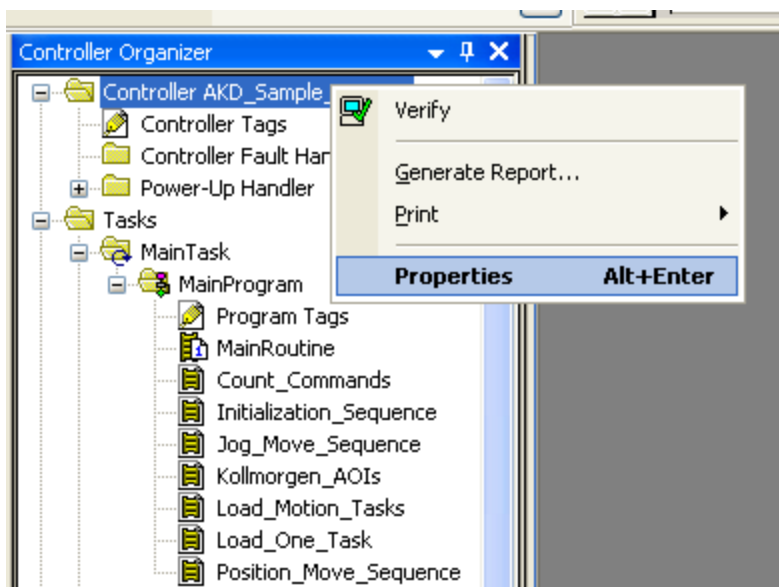

Figure 3-1: Opening Controller Properties
2. You will most likely need to update the controller properties to match your specific installation. Right click on the controller (“AKD_Controller”) at the top of the tree and select “Properties” (Figure 3-1: Opening Controller Properties).